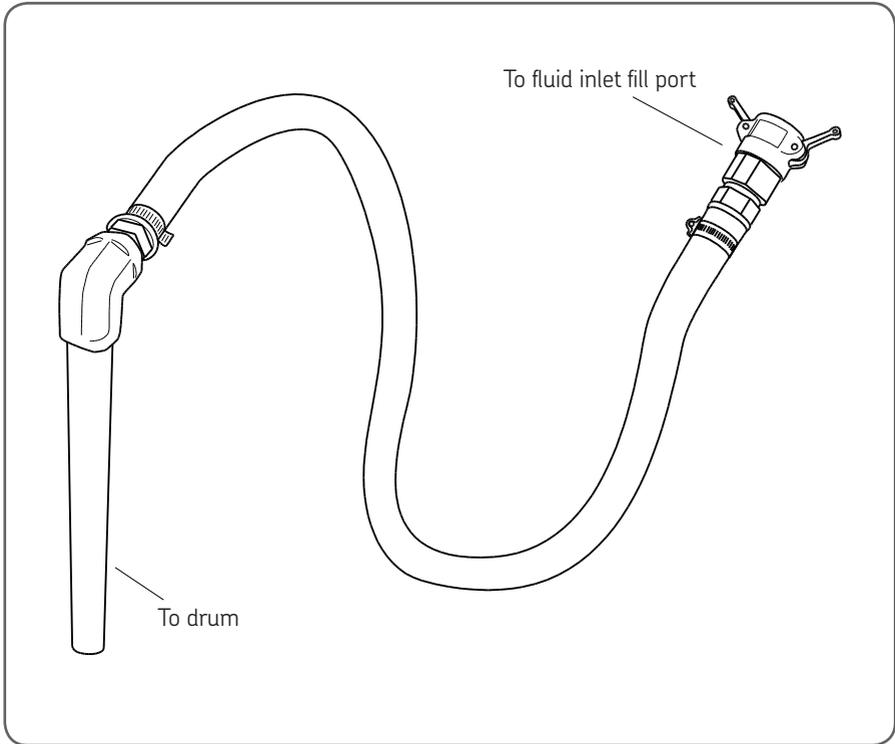

Fig 17 Suction hose assembly
1. Locate the suction hose assembly. Each tank will have its own individual suction hose assembly. See figure 17.